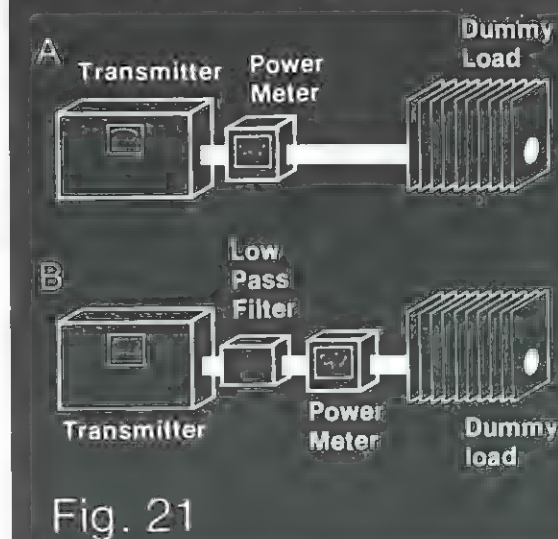

Fig. 21
4. By installing one or more low-pass filters in the transmitter antenna lead, you will reduce the chances of unnecessary harmonic radiation. A low-pass filter allows frequencies up to 30 or 50 megahertz (MHz), depending on brand, to pass through unattenuated to the antenna while effectively shorting out harmonic radiation. To make this test, connect the equipment as in Figure 21 and take a power reading. If only an SWR Bridge is available, calibrate it in the forward direction to the calibrate line in the meter. Then insert the low-pass filter and make another power measurement. DO NOT retune the transmitter.